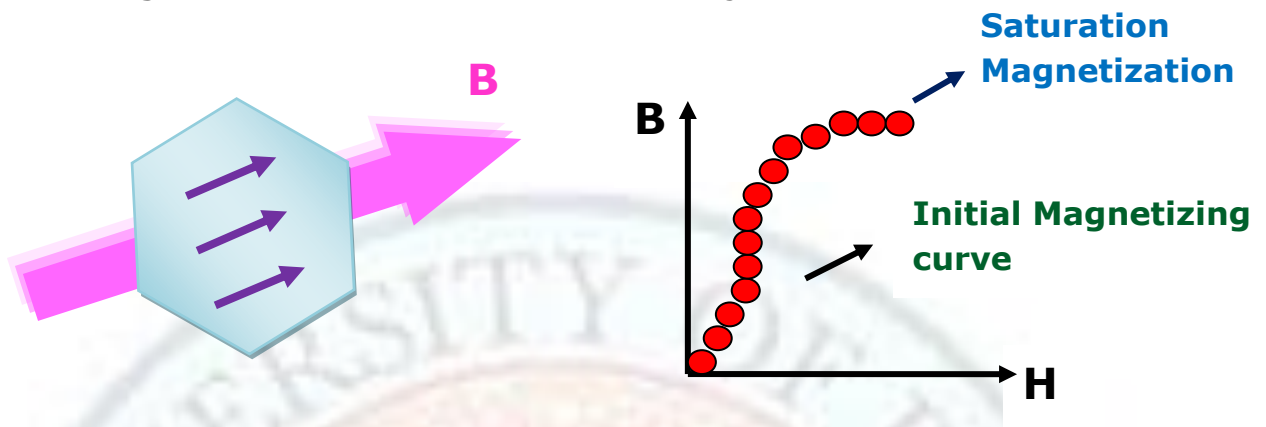

Figure 7
4. Domains which were originally oriented along 'easy' magnetization direction also start rotating such that their axes become parallel to applied magnetic field. This gives rise to **saturation magnetization** in the **B-H** curve, as seen in figure 7.